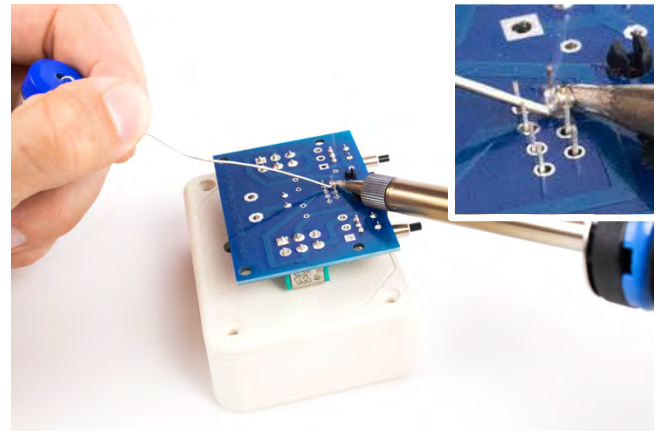

Figure 20
- ❑ Turn the assembly over and place it across the open top of the control box. (Figure 20)
- ❑ Solder the eight terminals. To avoid bridges between these closely spaced connections, place the soldering tip on the outside of the terminal rows, not between the terminals, and do not use too much solder. (Figure 20)